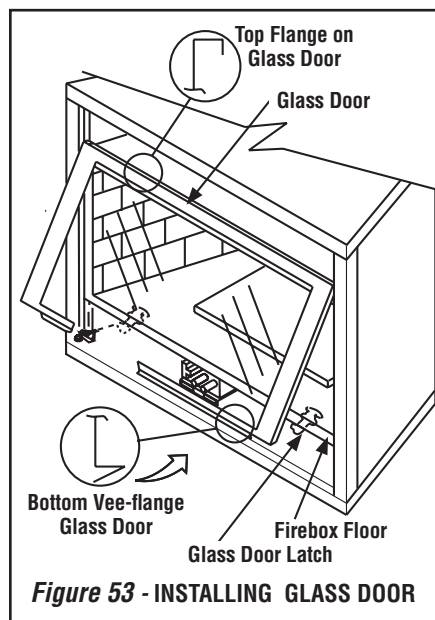

Figure 53 - INSTALLING GLASS DOOR
Removing Glass Enclosure Panels (see Figure 53)
Installing Glass Enclosure Panels (see Figure 53)
2. Position the glass enclosure panel in front of the firebox opening at a 45 degree angle and engage the top flange over the lip at the top of the firebox opening. **See Figure 53.**